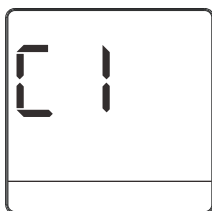

Figure 4.6
① Long press  and  at the same time for 8 seconds to enter the advanced parameter settings page, "C1" will be displayed in the temperature display area (see Figure 4.6). Press  to exit the advanced parameter settings status.